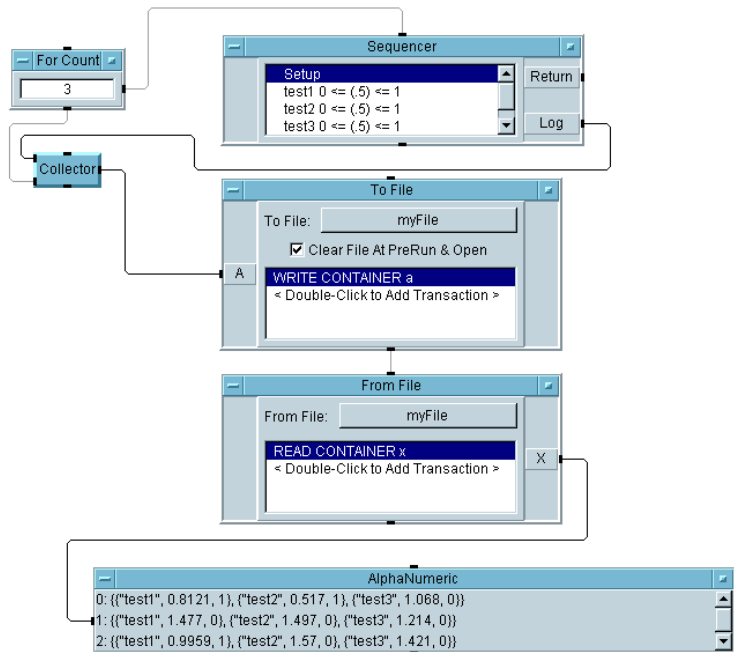

Figure 247 Storing Logged Data with To/From File
- 5 Run the program. It should look like Figure 247.